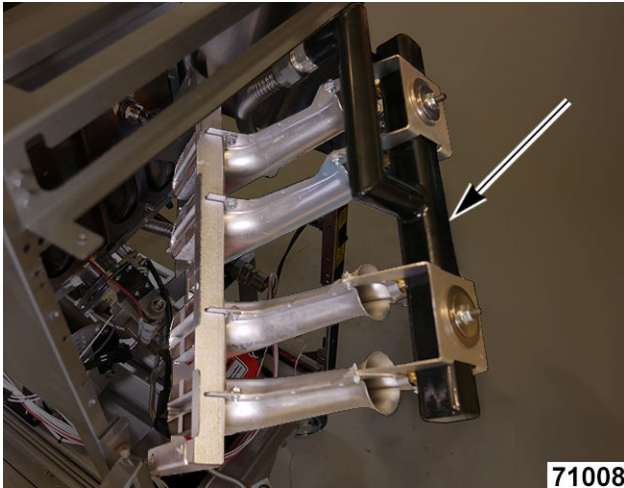

Fig. 28
15. Position burner / bracket assembly to studs welded to tank Fig. 28.